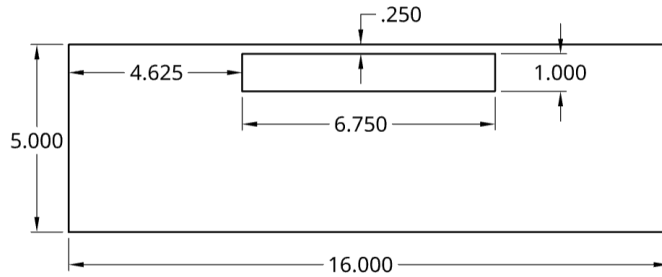

Figure 8. Manufacturing Steps 1-2
2. On the long side of the plate, using a laser cutter or Dremel, cut a 6-1/2" by 1" rectangle in the plate, 1/2" from the end of the plate. This cut-out should run lengthwise along the edge of the plate, as shown below in figure 8.